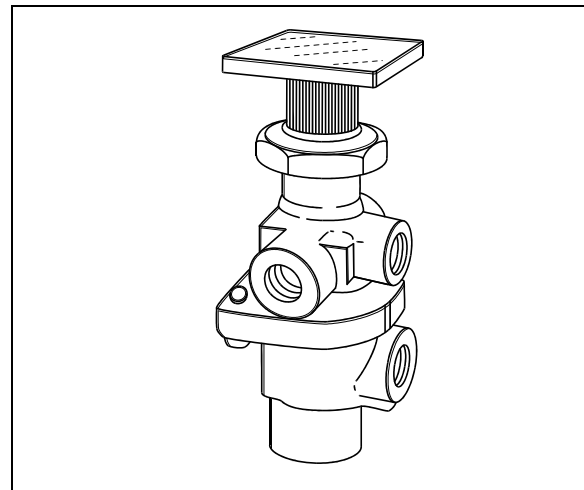

FIGURE 10: PP-1 12142
2. Access this valve by tearing out the finishing panel, which holds the controls in place (Fig. 10).